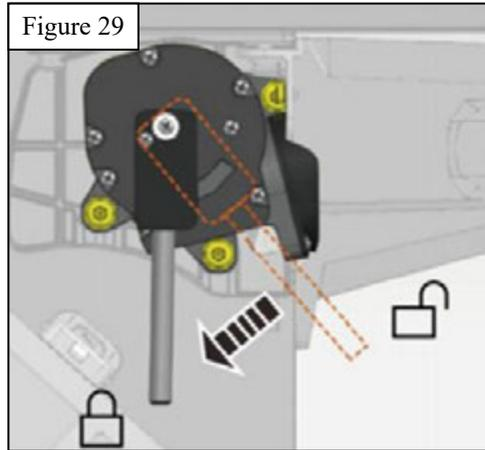

Figure 29
16. Pull the clutch handle downward to engage the motor. See **Figure 29**.